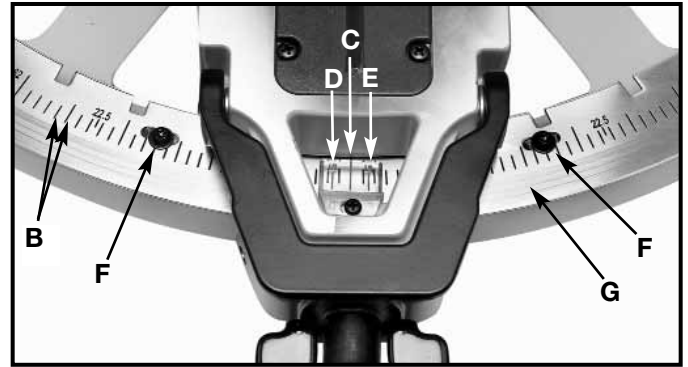

Fig. 14
3. The center line (C) Fig. 14 on the cursor indicates the actual angle of cut. Each scale line (B) represents 1° . When the center line (C) is moved from one line to the next on the scale, the angle of the cut is changed by 1° .
4. The pointer is provided with two additional lines (D) and (E), Fig. 14. This allows movement of the control arm by exactly $1/2^\circ$. For example, assume that the center line (C) is pointing to the 10° mark on the scale, as indicated, and the desired angle of cut is $1/2^\circ$ to the right. Move the control arm until the right line (E) lines up with the next line on the scale. The angle of cut will then be changed $1/2^\circ$ to the right. If you change the angle of cut $1/2^\circ$ to the left, use the left line (D) in the same manner.